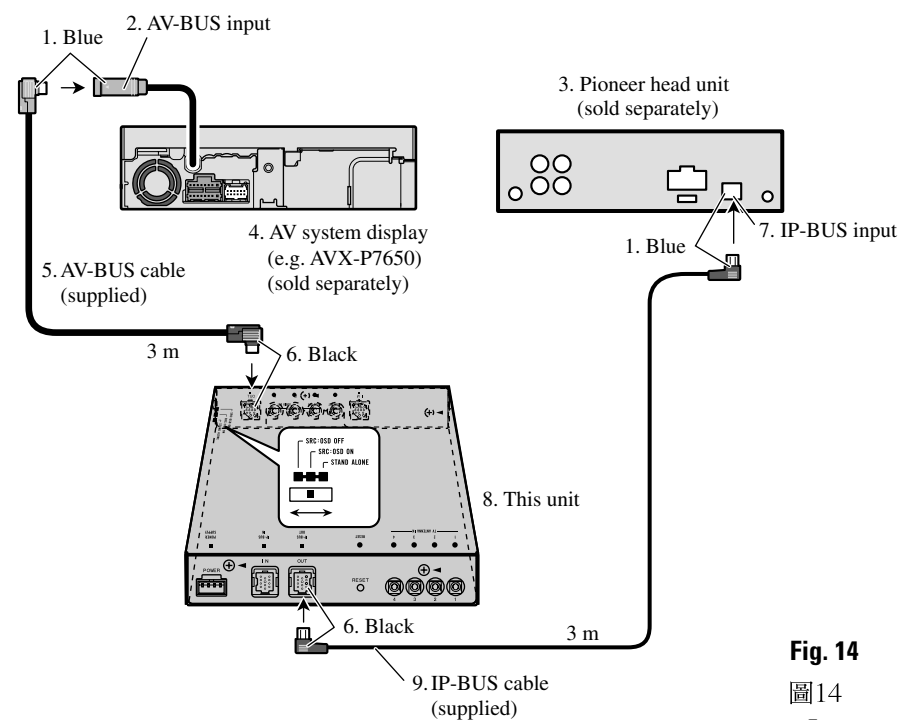

Fig. 14
■ When using this unit as "SRC : OSD ON" mode (Fig. 14)